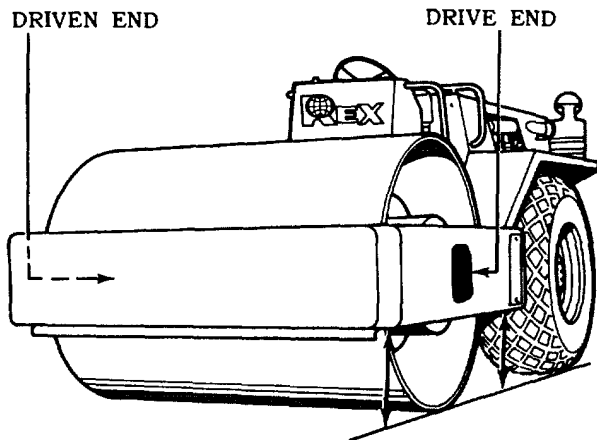
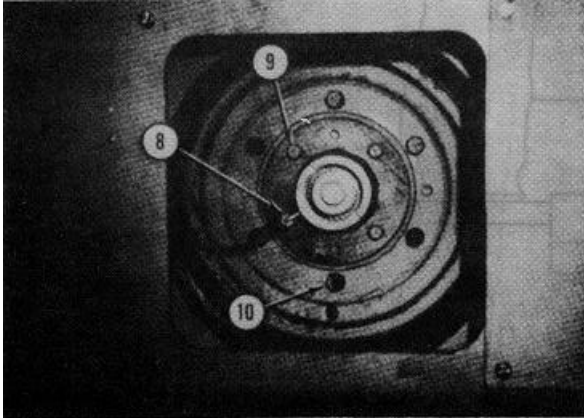

FIGURE 21
FIGURE 24
PNEUMATIC ISOLATOR (TIRE AND WHEEL) REMOVAL FOR REPAIR OR CHANGE (Figures 21 thru 27)
1. Figure 21 Remove the roller frame side covers at the drive and driven ends
2. Figure 21 Place hydraulic jacks or blocking under the front and rear ends of the roller side frame being repaired, where indicated with arrows. Apply just enough upward pressure to keep the frame from lowering
Driven End - Figure 24 and reference figure 21.
13. Figure 24. Back off on lock nut holding magnetic pick-up (8) into the bearing housing. Unthread magnetic pick-up out of bearing housing and tuck into roller frame. If machine is not equipped with an amplitude indicator, proceed with step 15.
15. Figure 24. Remove four bolts (9) holding bearing flange to wheel mount and remove flange. Remove remaining wheel bolts (10).